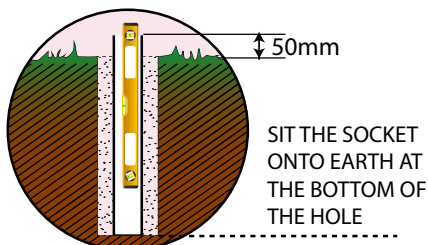

Fig 1a,
- 2, For permanent installation, excavate a foundation, (see table for dimensions). Concrete the socket into place, use a level to check the socket is vertical and sitting on the soil at the bottom of the hole and plumb checking at intervals as you infill the hole. Make sure there is 50mm of socket left above ground. **DO NOT SIT THE POLE ON CONCRETE** (see fig 1a)